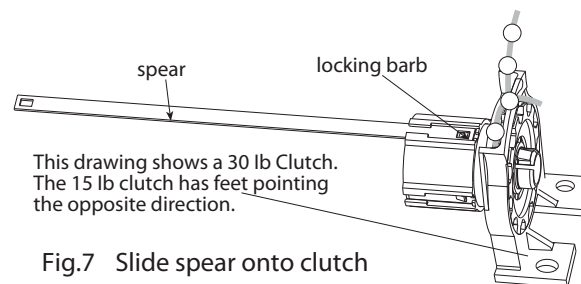

Fig.7 Slide spear onto clutch
Step 5. Slide either end of a spear into the groove on the clutch making sure the hole on the spear securely snaps and locks onto the locking barb in the clutch as shown in Fig.7. Once the spear is inserted, it can not be removed. Insert the other three spears in the other three grooves on the clutch.